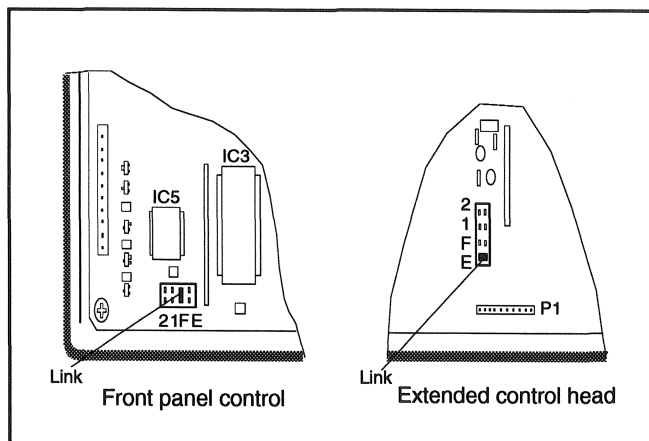
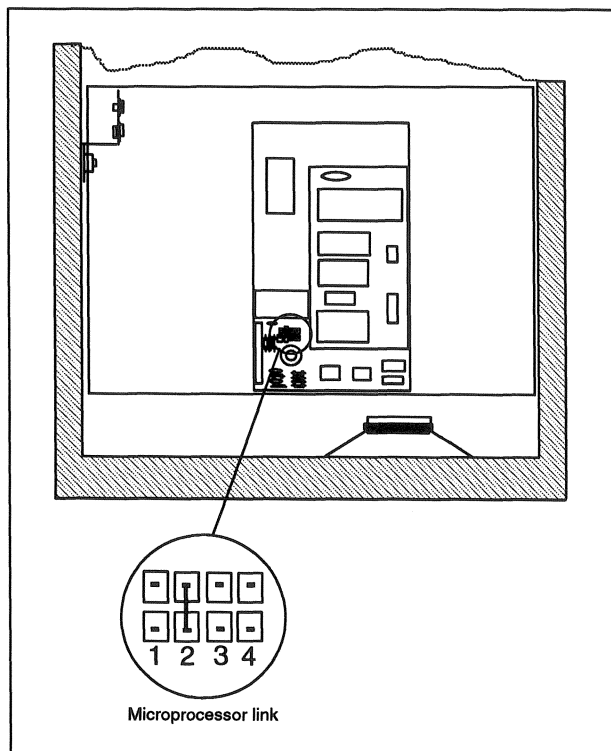

Figure 12.1 The front panel link
Figure 12.2 The microprocessor link
Some of the set-up procedures may need a link to be moved inside the transceiver, while some need a link soldered inside the transceiver. The moveable link is called the front panel link (see Figure 12.1), the soldered link is called the microprocessor link (see Figure 12.2).
On front panel control transceivers, the PCB (part number 08-03745-001) is located behind the numeric buttons and display. The link is located on a row of four horizontally mounted pins on the PCB (Figure 12.1), immediately behind the number 9 button.
On extended control transceivers, the PCB (part number 08-04666-001) is located inside the control head. The link is located on a row of four vertically mounted pins on the PCB (Figure 12.1), immediately behind the number 7 button.
The link must only be soldered across the number 2 pads as shown in figure 12.2. A link soldered across the number 2 pads (called the inhibit link) prevents you from changing the inhibit set-up options on P-channel programming.
4.	Locate the microprocessor PCB and the number 2 pads (see Figure 12.2). The link must only be fitted across the number 2 pads. Pads 1, 3 & 4 are not used.